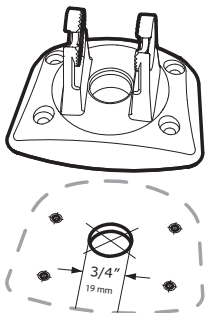

Figure 5
- 1a. Mark and drill a 3/4" hole as shown in Figure 5. Route the cables through the hole. The cables will exit through the center hole on the control head base.